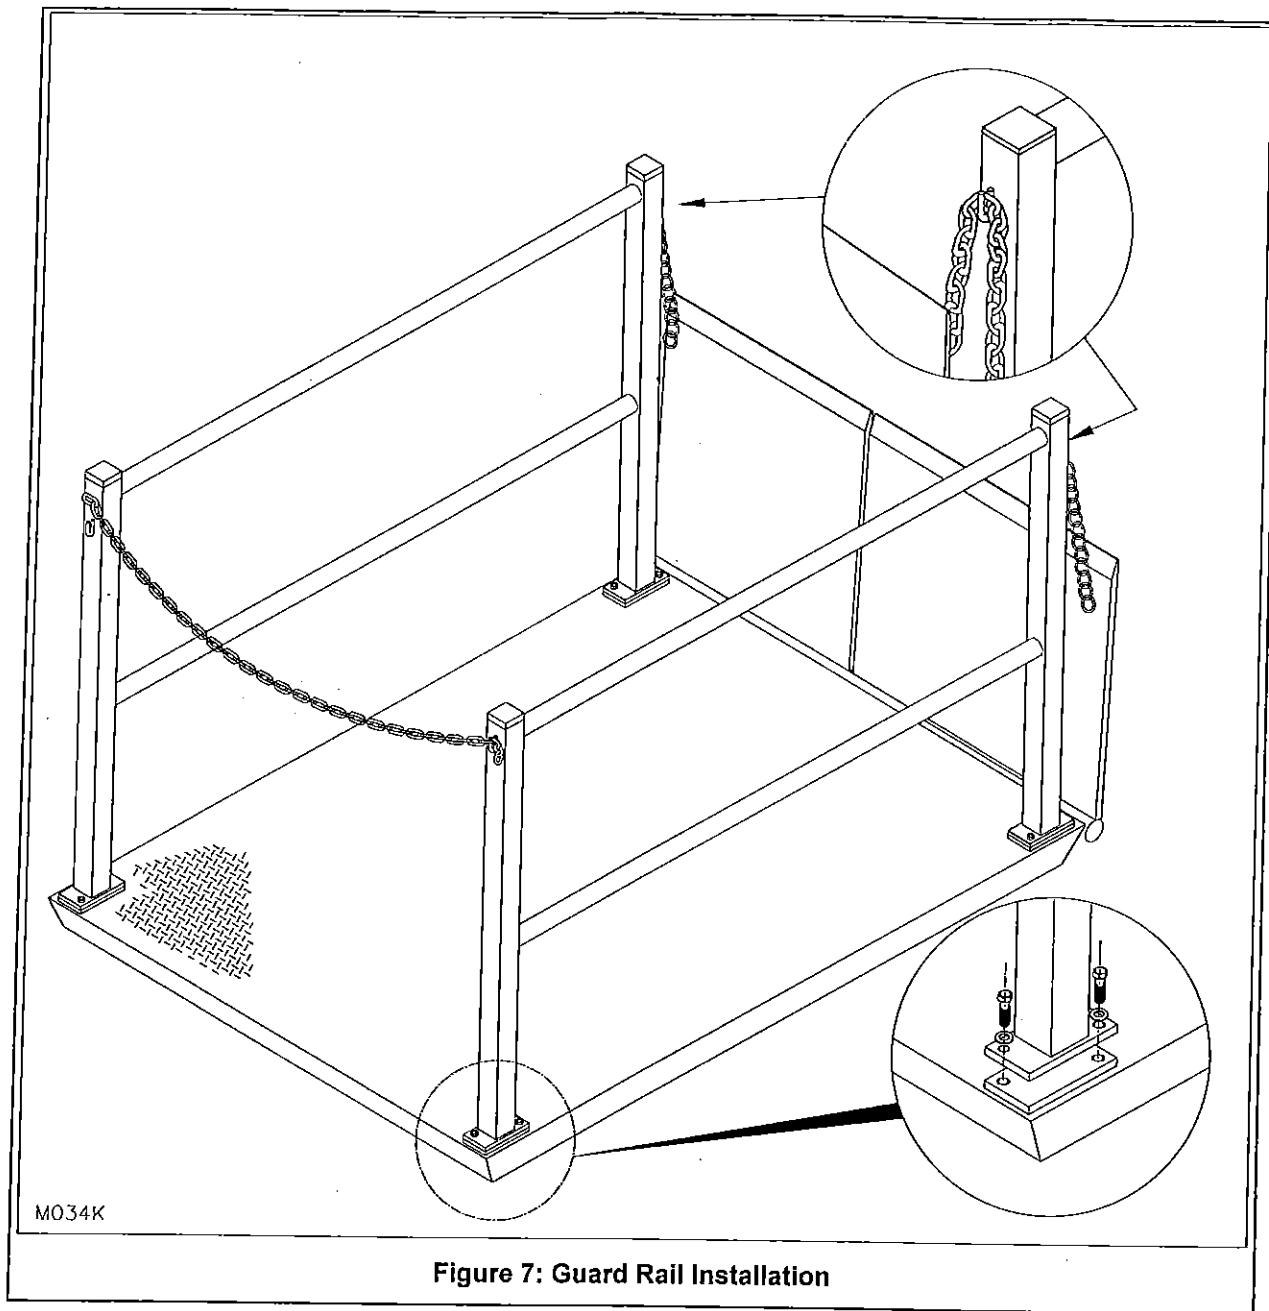

**Figure 6: Shim Beneath the Fixed End Clevises and Full Roller Travel**
14. If required, level the unit on both sides by shimming under the frame side angle lag locations, the full length and width of the roller travel and the lower fixed end clevises. (See Figure 6, Page 9)
16. When installing into a concrete pit, lag the unit to the pit floor with recommended fasteners, 5/8" Dia. x 4 1/2" long wedge anchors with a minimum shear value of 12,900 lbs. (5 850 kg), and tension value of 10,200 lbs. (4 630 kg). (See Figure 6, Page 9.) Torque to manufacturer specifications. If the mounting surface is not concrete, utilize a fastener to suit the structural values indicated and appropriate for the mounting surface.